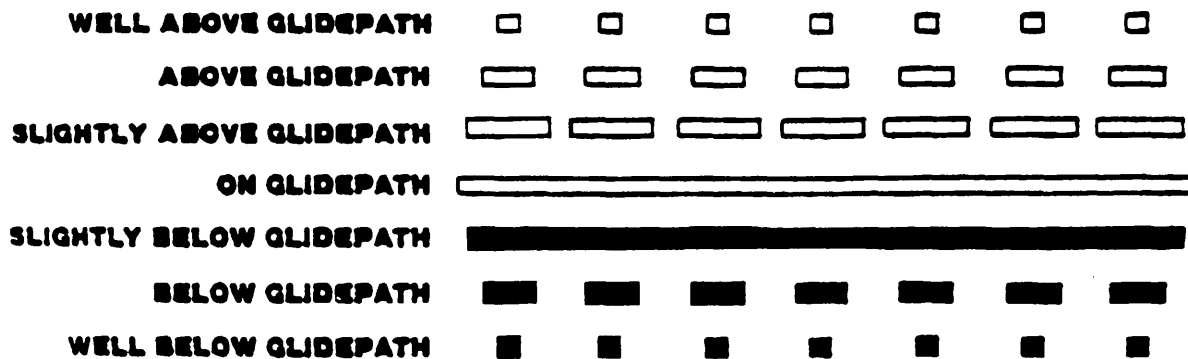

Figure 2-2. Pictorial PLASI Pulse Signals.
b. Functional Characteristics of Lighting. The center light band is a steady white light projected at a  $0.35 \pm 0.02$  degrees high angular wedge, 16 degrees wide with the apex at the PLASI. This center band defines the correct glide path. The upper band of white light pulsing at 2.2 pulses per second is a wedge approximately 2.5 degrees high by 16 degrees wide, which gives "above glide path" indication. A similar lower band of pulsing red light provides the "below glide path" information. In between the steady white on-glide path signal and the pulsing red below-glide paths signal is a solid red sector of .175 degree height by 16 degrees width which is the slightly below glide path signal and advises the pilot that he is at 2.65 degrees (for 3 degrees approach) when at the lower edge of the steady red. The pulses of the white "above" and red "below" lights vary in length continuous at the edge of the glide path to zero length at the "off-glide path" limit of visual contact. This variation in light pulse length, long near the path, and becoming shorter and shorter as deviation from glide path increases, gives the pilot quantitative information on deviation. Rate of change of pulse length provides rate of deviation from or closure with the glide path. Figure 2-2 is a pictorial representation of the pulse light signals. The visual presentation is accomplished through the use of optical components, a moveable shutter and red filter. One tungsten-halogen lamp is positioned behind a condenser lens. For reliability, an automatic lamp changer inserts a new lamp within 1 to 4 seconds if the one in use should fail.
(1) Open housing top and securely latch. Make sure the external level beam index mark is set to the desired approach scale on the degree scale, and that the bubble in the beam level is centered. Adjust if necessary.
(2) Inspect the air inlet filter to the dual fan motor. If the filter is corroded or damaged, replace with a new filter. If filter is dirty, remove and clean with a water and detergent solution. Rinse thoroughly, air dry, and replace.
(3) Check the drive chain for proper tension with the power on and the chain running, it should be possible to deflect the top strand of the chain approximately 3/8 inch. Adjust if necessary after turning the power back off. Lubricate the chain sparingly with SAE 50 weight nondetergent oil. Check the tightness of all sprocket set screws (6 locations).
(4) Check the upper and lower shutter chains for correct tension. With the power on and the chains running, the chain sag should be approximately one-eighth of an inch. Turn the power off and adjust if necessary. Check tightness on all six sprocket set screws. Lubricate sparingly the chains and sprocket teeth with SAE 50 weight nondetergent motor oil. Do not contaminate the red filter or condenser lens with oil.
(5) Remove oil plug on the shutter motor and check oil level in the gear case. Add SAE 50 weight nondetergent oil as required.